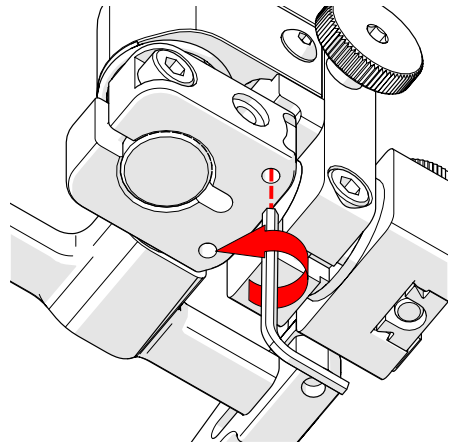

Fig. 163 - Lower 90° stop post
7. Locate the recessed M3 screw (stop post) on the bottom of the probe holder. Unscrew the stop post using a 1.5 mm hex wrench until it has cleared all obstructions. Do not remove stop post (Fig. 163).